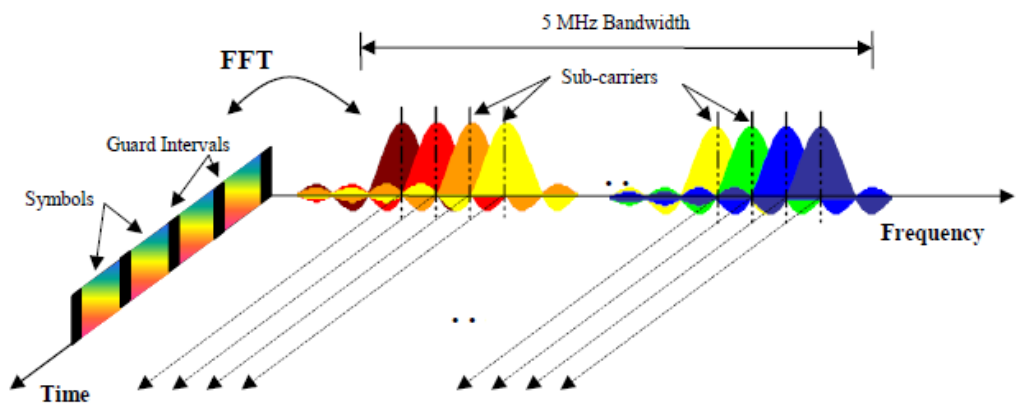

Fig. 3-1: Frequency-Time Representation of an OFDM Signal (3GPP TR 25.892 [2])
The following figure 3-1 shows a representation of an OFDM signal (3GPP TR 25.892 [2]). In this figure, a signal with 5 MHz bandwidth is shown, but the principle is of course the same for the other E-UTRA bandwidths. Data symbols are independently modulated and transmitted over a high number of closely spaced orthogonal subcarriers. In E-UTRA, downlink modulation schemes QPSK, 16QAM, and 64QAM are available.
carriers is obtained, with each subcarrier having the shape of a frequency sinc function (see figure 3-1).
One downlink slot consists of  $N_{\text{symbol}}^{\text{DL}}$  OFDM symbols. To each symbol, a cyclic prefix (CP) is appended as guard time, compare figure 3-1.  $N_{\text{symbol}}^{\text{DL}}$  depends on the cyclic prefix length. The generic frame structure with normal cyclic prefix length contains  $N_{\text{symbol}}^{\text{DL}} = 7$  symbols. This translates into a cyclic prefix length of  $T_{\text{CP}} \approx 5.2 \mu\text{s}$  for the first symbol and  $T_{\text{CP}} \approx 4.7 \mu\text{s}$  for the remaining 6 symbols. Additionally, an extended cyclic prefix is defined in order to cover large cell scenarios with higher delay spread and MBMS transmission. The generic frame structure with extended cyclic prefix of  $T_{\text{CP-E}} \approx 16.7 \mu\text{s}$  contains  $N_{\text{symbol}}^{\text{DL}} = 6$  OFDM symbols (subcarrier spacing 15 kHz). The generic frame structure with extended cyclic prefix of  $T_{\text{CP-E}} \approx 33.3 \mu\text{s}$  contains  $N_{\text{symbol}}^{\text{DL}} = 3$  symbols (subcarrier spacing 7.5 kHz). The table 3-1 gives an overview of the different parameters for the generic frame structure.